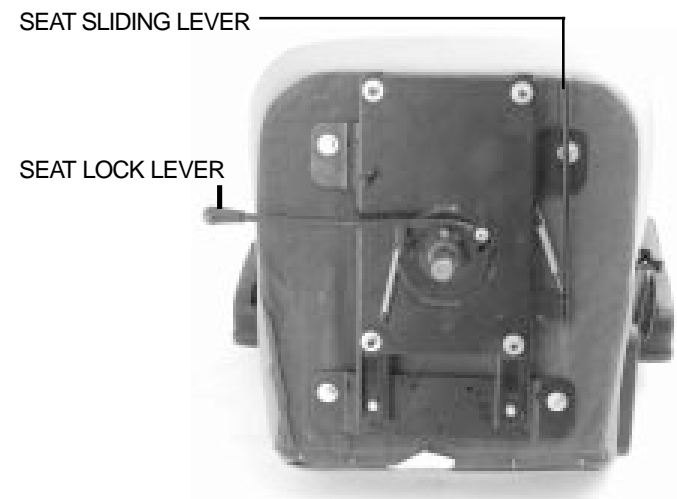

Figure 10. Seat Adjustments
1. Push forward on the seat lock lever to unlock the seat. See figure 10.
You can reposition the scooter's seat forward or rearward to adjust the distance between the seat and the tiller. See figure 10.